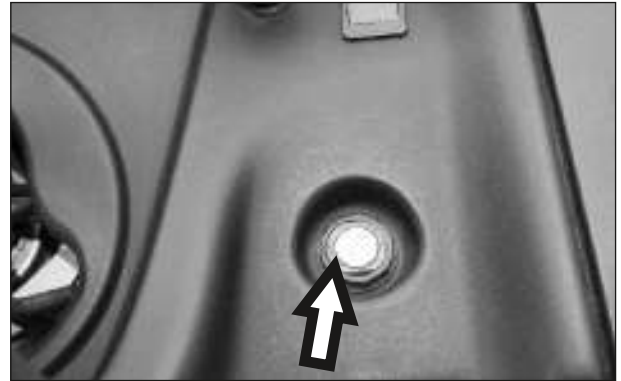

Fig. 6.77
- The ignition switch is located on the right side dashboard. Inspect the ignition switch for continuity with the multi meter as below: (Fig. 6.77)